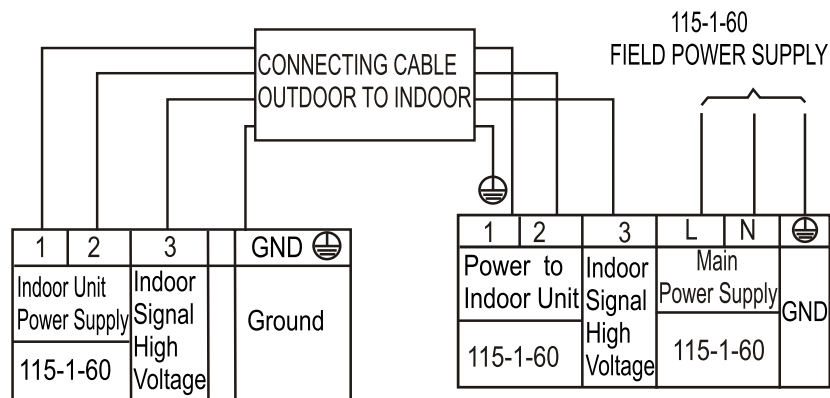

Fig. 1 — Connection Diagram 12K (115V)
2. All connections between indoor and outdoor units must be as shown in Figures 1 - 3. The connections are sensitive to polarity and will result in a fault code.